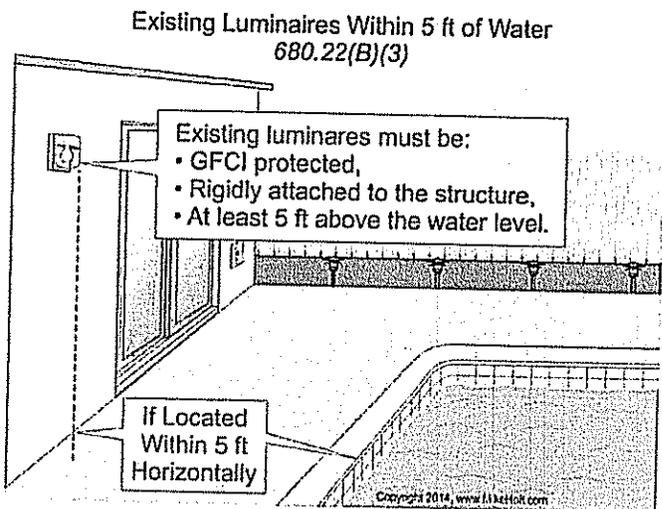

Figure 680-26
**(B) Luminaires and Ceiling Fans.**
(3) **Existing Installations.** Existing luminaires located less than 5 ft horizontally from the inside walls of a permanently installed pool, outdoor spa, or outdoor hot tub must be not less than 5 ft above the surface of the maximum water level, must be rigidly attached to the existing structure, and must be GFCI protected. Figure 680-26